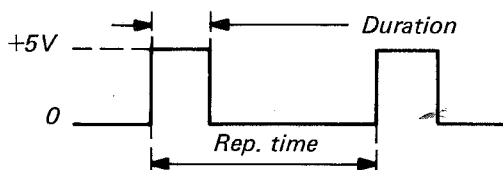

Fig 6.1. Main pulse, normal mode.
- Connect an oscilloscope to the PULSE OUT connector via a 50 Ohm termination and observe a pulse similar to fig. 6.1.